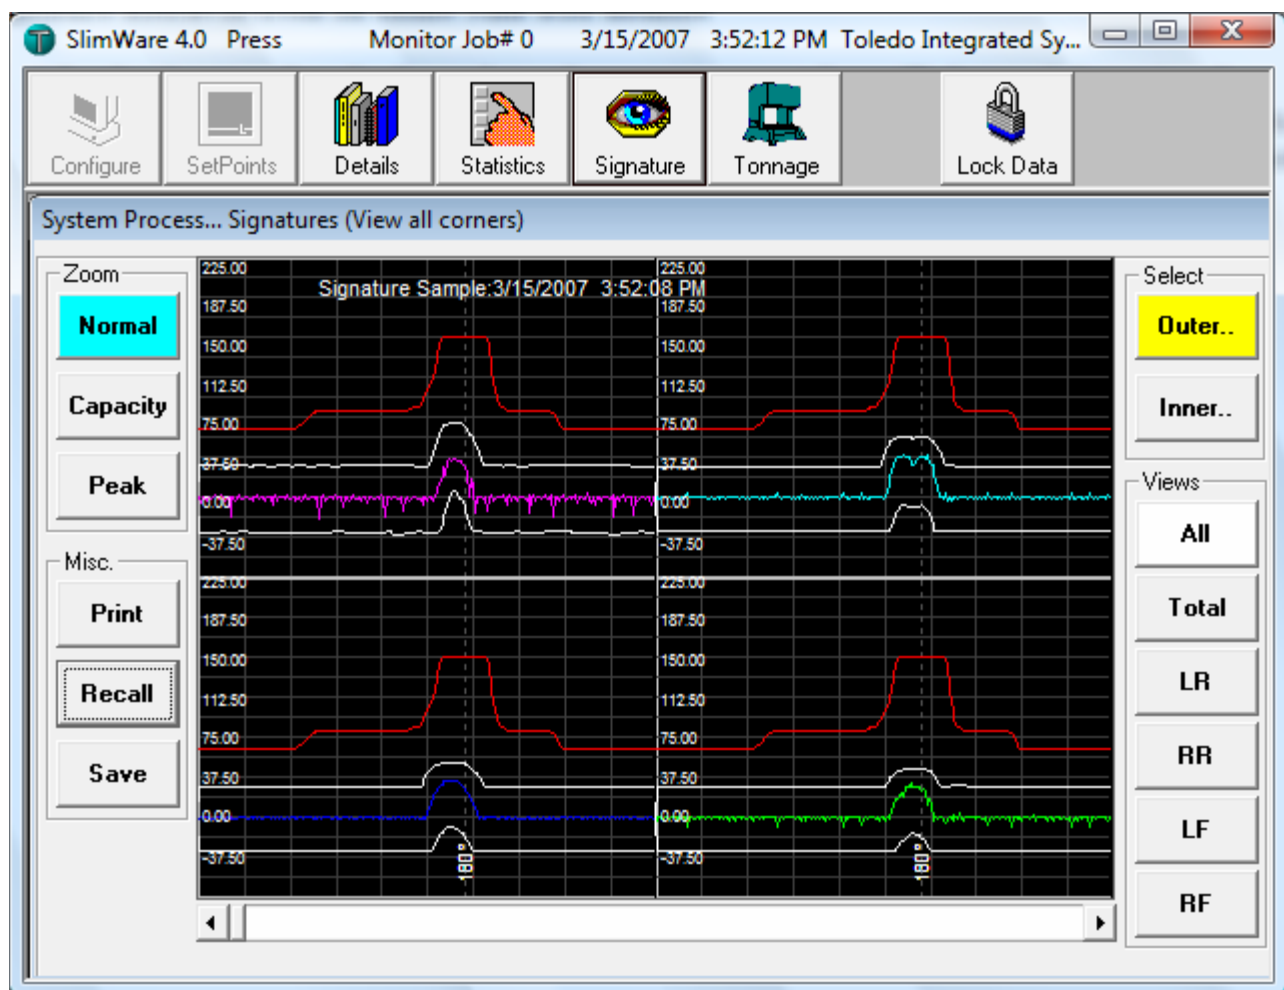

Figure 9.5 - Downloaded Signature From Online Load Monitor
- After the signature download completes, the progress prompt box will close and the retrieved signature will be displayed (refer to Figure 9.5). You may now look at other views of the signature by selecting a button within the Select and Views control bars. If the online Slim load monitor has four channels or less, the Select control bar is not visible.